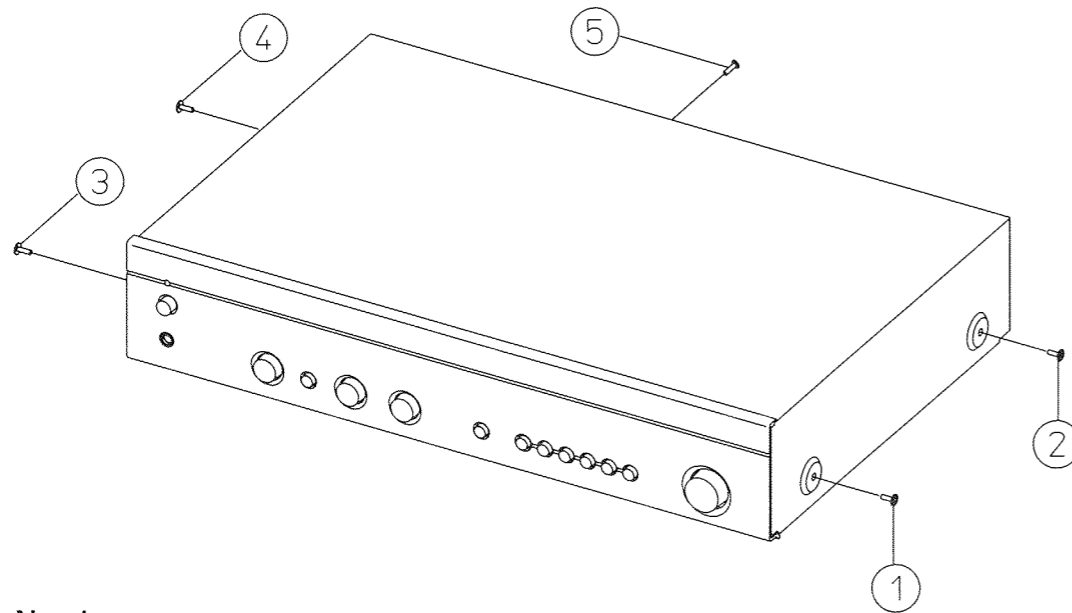

Figure No. 1.
1. Remove machine screws M4.0 x 6.0 (1 to 4) from the side panels. Remove tapping screw 3.0 x 8.0 (5) from the back panel. Refer to **Figure No. 1**.